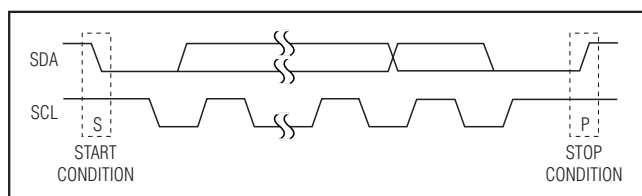

Figure 3. START and STOP Conditions
Each transmission consists of a START condition (Figure 3) sent by a master, followed by the MAX7313 7-bit slave address plus R/W bit, a register address byte, one or more data bytes, and finally a STOP condition (Figure 3).
from high to low while SCL is high. When the master has finished communicating with the slave, it issues a STOP (P) condition by transitioning SDA from low to high while SCL is high. The bus is then free for another transmission (Figure 3).